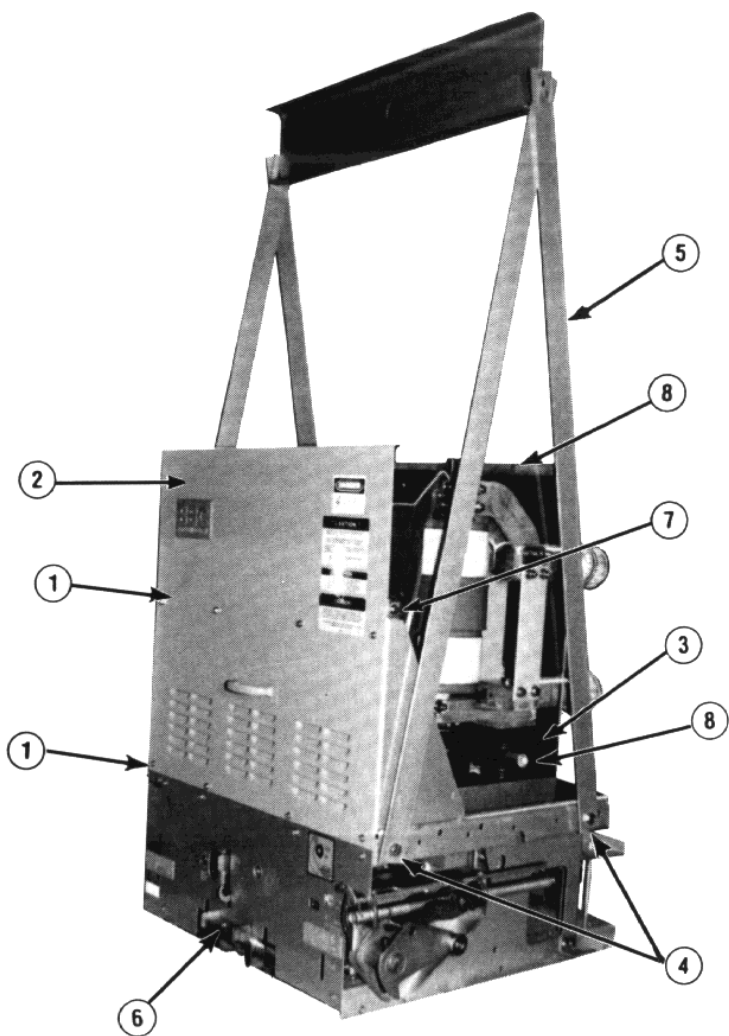

Fig. 1 — Circuit Breaker Assembly with Lifting Yoke Installed
Referring to Fig. 1, if it is necessary to raise or move the breaker, attach a lifting yoke (5) at points (4) on both sides of the truck, or a fifth wheel at point (6) to transport the breaker as required.
The front cover and interphase barriers (2 & 3, Fig. 1) must be removed for access to and inspection of the vacuum interrupters, and their associated adjustments.
### Removing Front Cover and Interphase Barrier (See Fig. 1)
### Installing Front Cover and Interphase Barriers (See Fig. 1)